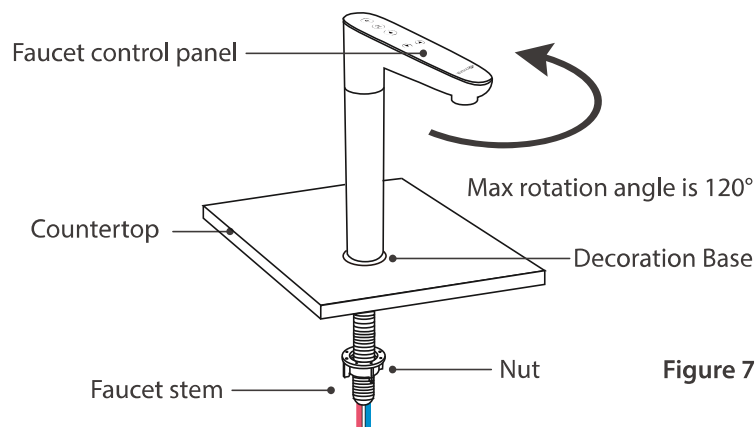

Figure 7
b. Under the sink, Slip on the nut and tighten it up. (**Figure 7**)